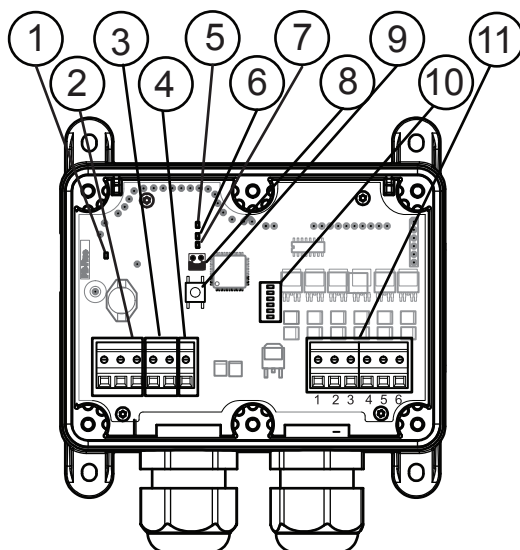
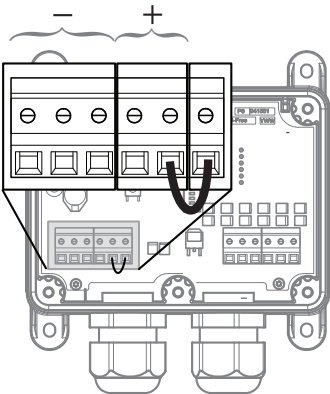

Figure 1. Sesam 800 RXM model indicators, connections and jumper
Figure 3. Configuring internal supply of output power
The Sesam 800 RXM model has LED indicators that indicate different parameters (see Figure 1 for positions of the LEDs).
Connect 12-24 V DC (+) to position 3 and ground (-) to position 2 (see ③ and ② in Figure 1).
Connect the equipment to be controlled to output terminals 1...6 (see ① in Figure 1) and equipment ground to position 2 (see ② in Figure 1). If the outputs are to be powered by the same 12-24 V DC supply as the receiver place a jumper between the Output Power Input (SW) and Positive (+) 12-24 V DC using a 0,75 mm² cable (see Figure 3).
Caution. All outputs must be disabled before configuration by disconnecting the Output Power Input (SW) terminal (see Figure 3).
2. Disconnect the Output Power Input terminal, see figure 3.